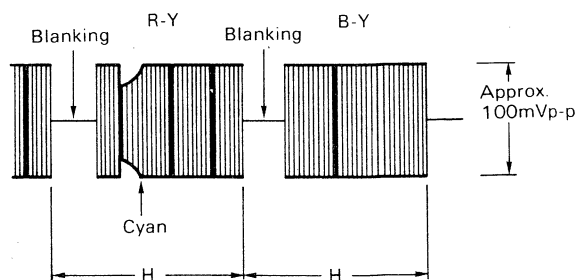

Figure 1.
3. Adjust LM51 for flat level of amplitude in each colour bar waveform on the scope. (See Figure 1.)